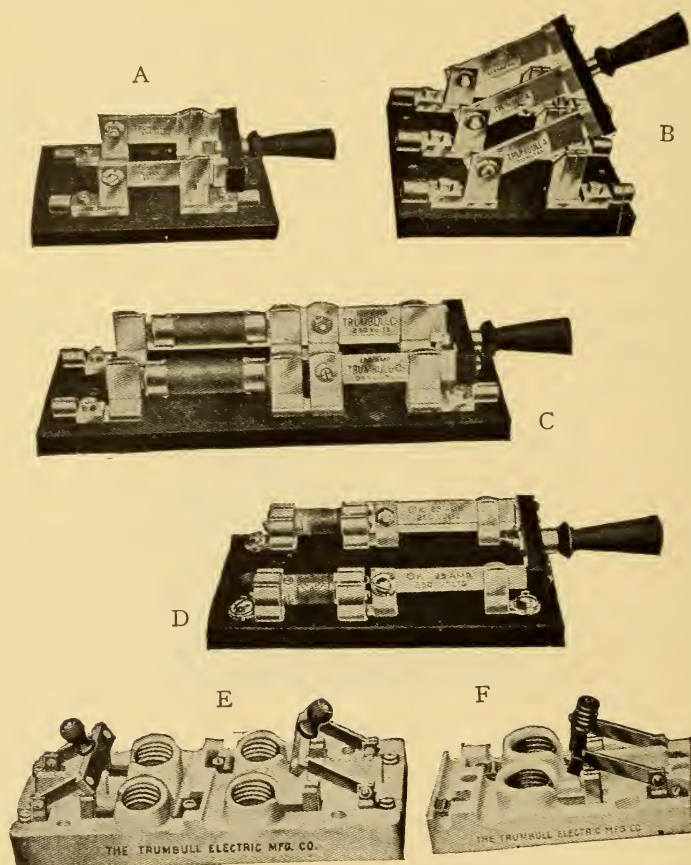

FIGURE 20.
(52) Such switches, either single or double throw, may be had with one, two, three or four poles—that is, knives or blades—and contacts. Several types of single throw switches are shown in Fig. 20 in which A is a single-throw double pole SPDT, B a single-throw triple pole SPTP switch and C and D are STDP switches with cartridge fuses attached. C has the knife and D